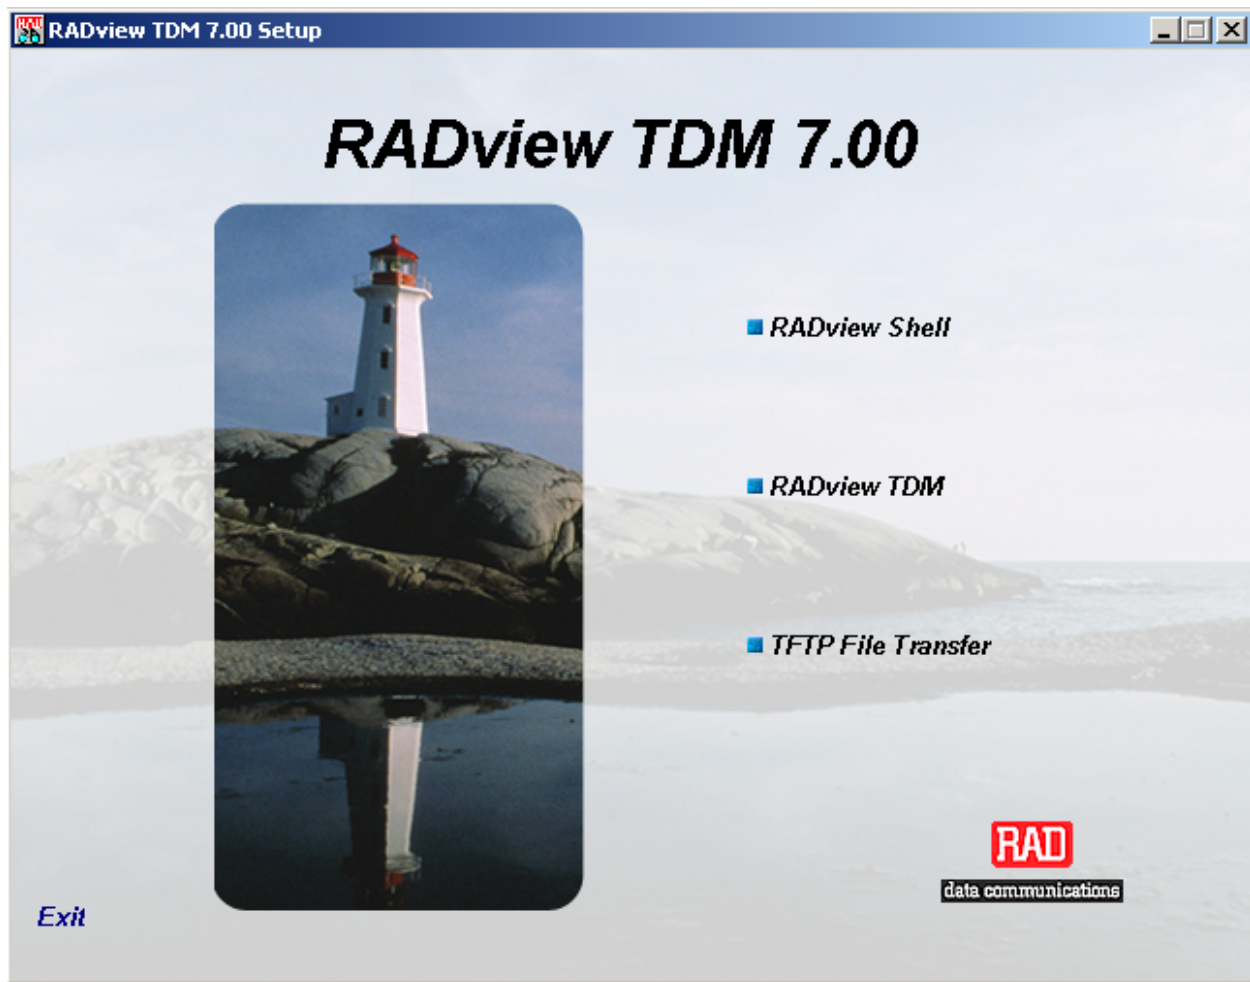

Figure 2-11. RADview-PC/TDM Setup Dialog Box
The RADview-PC/TDM setup dialog box appears (see Figure 2-11).
1. In the RADview-PC/TDM setup dialog box (see Figure 2-11), position the mouse over **RADview TDM** until it is highlighted (blue). Click to start the installation.